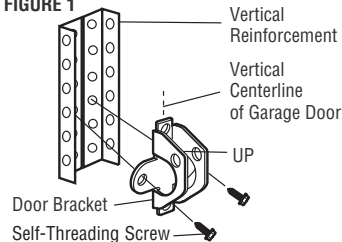

FIGURE 2
2. Alternately, use two 5/16"-18x2" bolts, lock washers and nuts (not provided). (Figure 2)